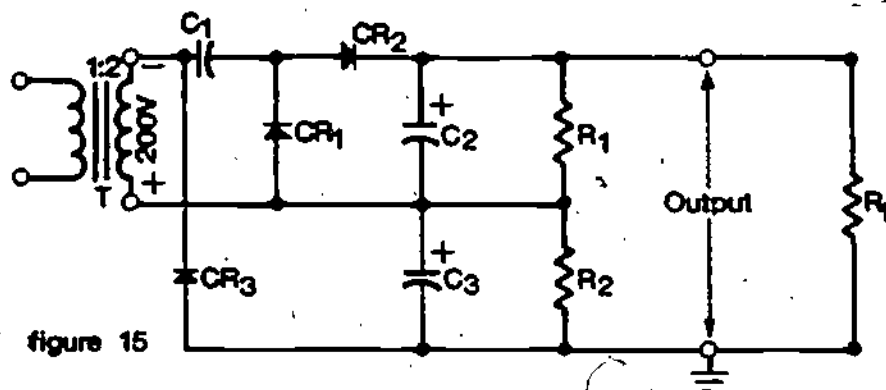

figure 15
THIS IS A TEST FRAME. STUDY THE SCHEMATIC SHOWN IN FIGURE 15 AND ANSWER THE QUESTIONS WHICH FOLLOW.
1. When the top of the transformer secondary is negative, as shown in Figure 15, CR3 is _____ and operates like a _____ switch.